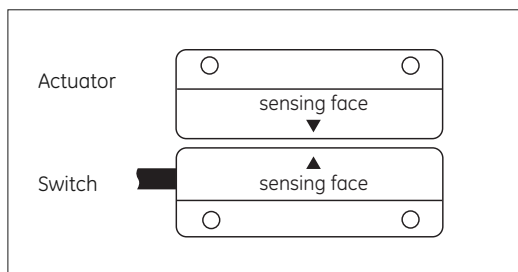

Figure 1
1. Position the switch and actuator so the labels are reading in the same direction (See Figure 1).